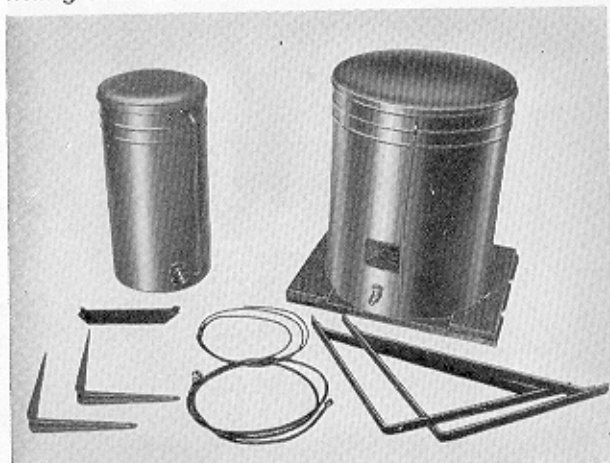

Fig. 118. Wall Mounted Tanks
**Wall Mounted Tanks (Fig. 118)**